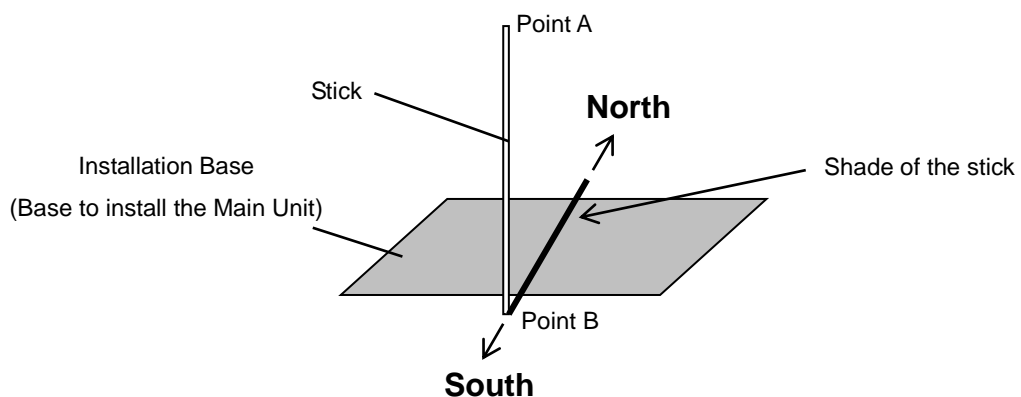

Figure 5-3-1. How to check the True North
RSB-01 Main Unit is installed in true south side and shadow band is installed in the true north side (See Figure 5-3-1). Use the South/North arrow indicated on the top part of the RSB-01 Main Unit (indicated as "→ N")
- E) Install the Main Unit so that the marked line and the “reference line for positioning (Figure 5-3-1)” on the Main Unit are in parallel position.